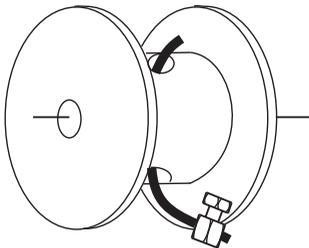

Fig. 5 Wire without end sleeve
2. Make sure that the clamping screw is tightened properly. See fig. 5.